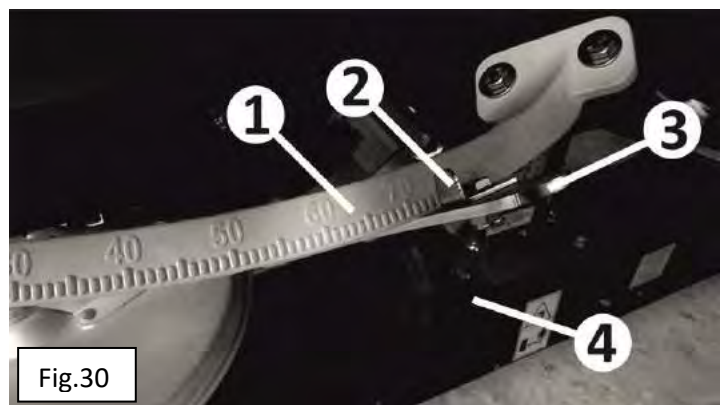

Fig.30
- Loosen the thumbnut (Fig.30/4) by turning it anti clockwise.
- Find the required scale value (Fig.30/1) .
- Set the indicator (Fig.30/2) on the value that you found between adjustment lever (Fig. 30/3) and scale.
- Tighten the thumbnut (Fig.30/4) by turning it to clockwise.